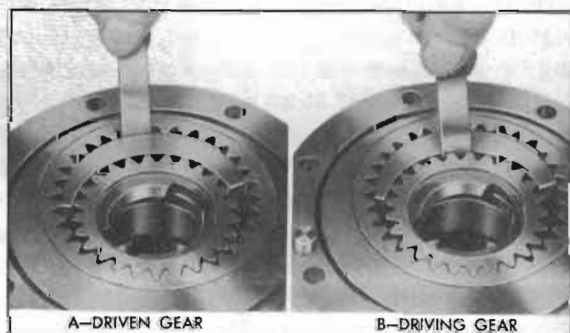

Figure 4-106—Checking Clearance Between Crescent and Gears
.005" to .009" on front pump and .0045" to .007" on rear pump. See figure 4-106, view A.
8. Insert feeler gauge between crescent and driving gear to check clearance, which should be .010" to .016" on front pump and .006" to .012" on rear pump. See figure 4-106, view B.